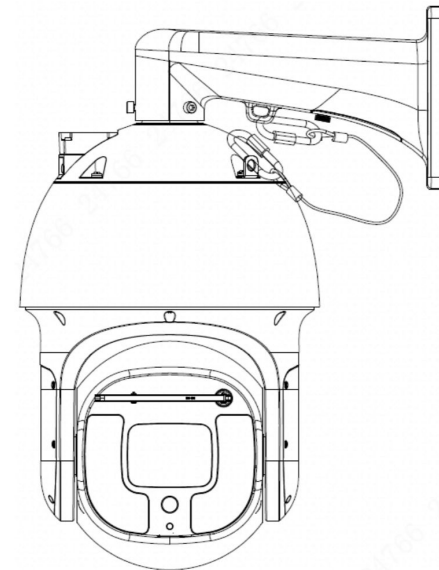

Figure 2-7
Step 4 Check if the screws on the bracket are firmly tightened, the safety buckle is reliably connected and the speed dome is firmly fixed. The speed dome installation is completed after confirmation, as shown in Figure 2-7